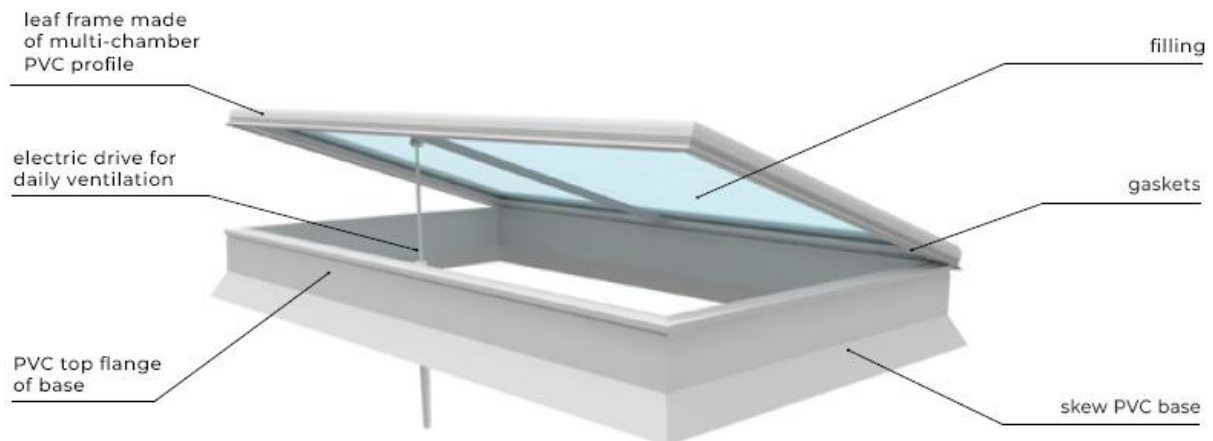
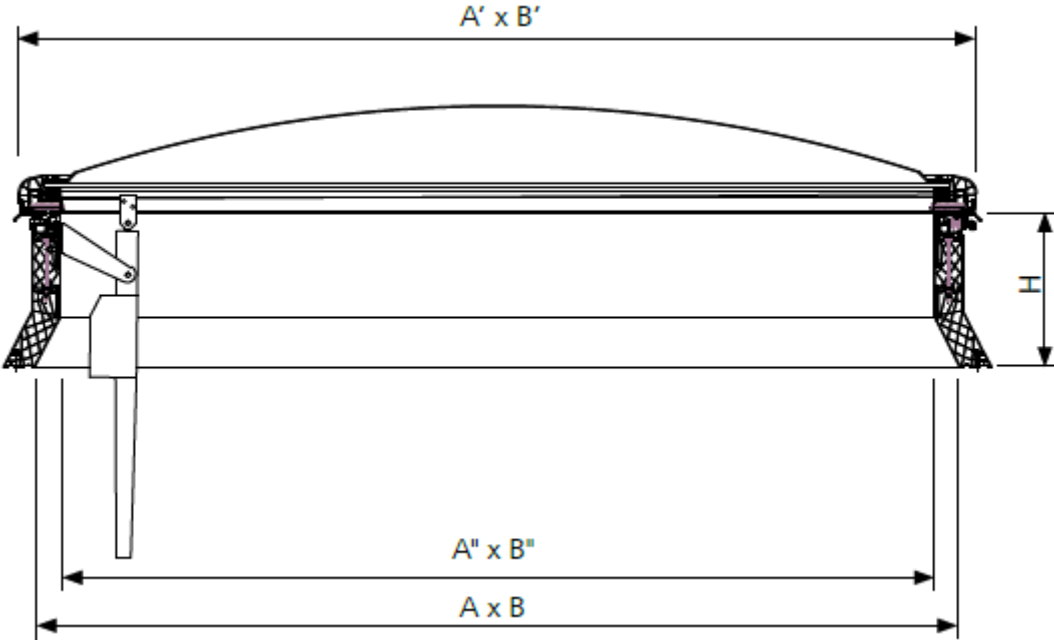

Fig. 7. Ventilation vent of mcr ULTRA THERM type with skew PVC base.
Fig. 8. Cross-section through ventilation vent of mcr ULTRA THERM type with skew PVC base.
- with PVC base → see Fig. 7, Fig. 8,